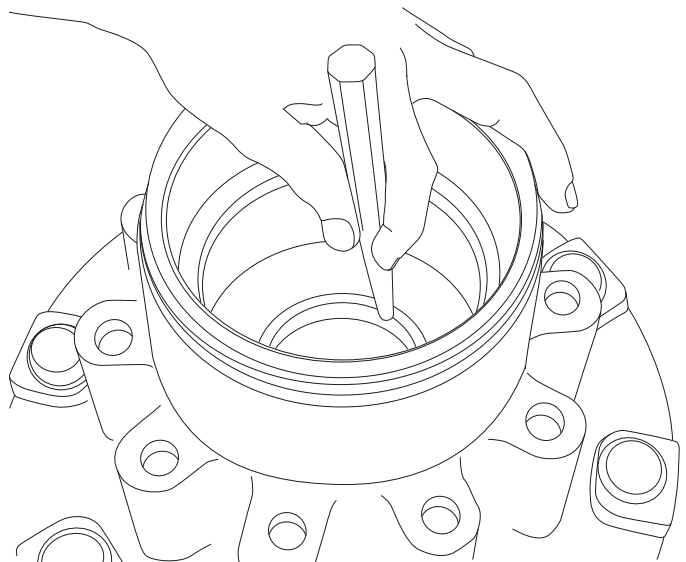

Figure 92: Removing Bearing Cup with a Punch
3. Drive the bearing cup out of the hub from the other side of the hub with the mild steel drift punch. Alternate the point of impact around the cup to ensure that comes out evenly. Refer Figure 92.